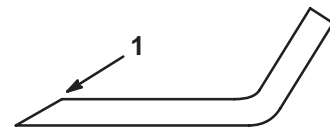

Figure 35
1. Use a file to sharpen the cutting edge at both ends of the blade (Fig. 35). Maintain the original angle. The blade retains its balance if the same amount of material is removed from both cutting edges.